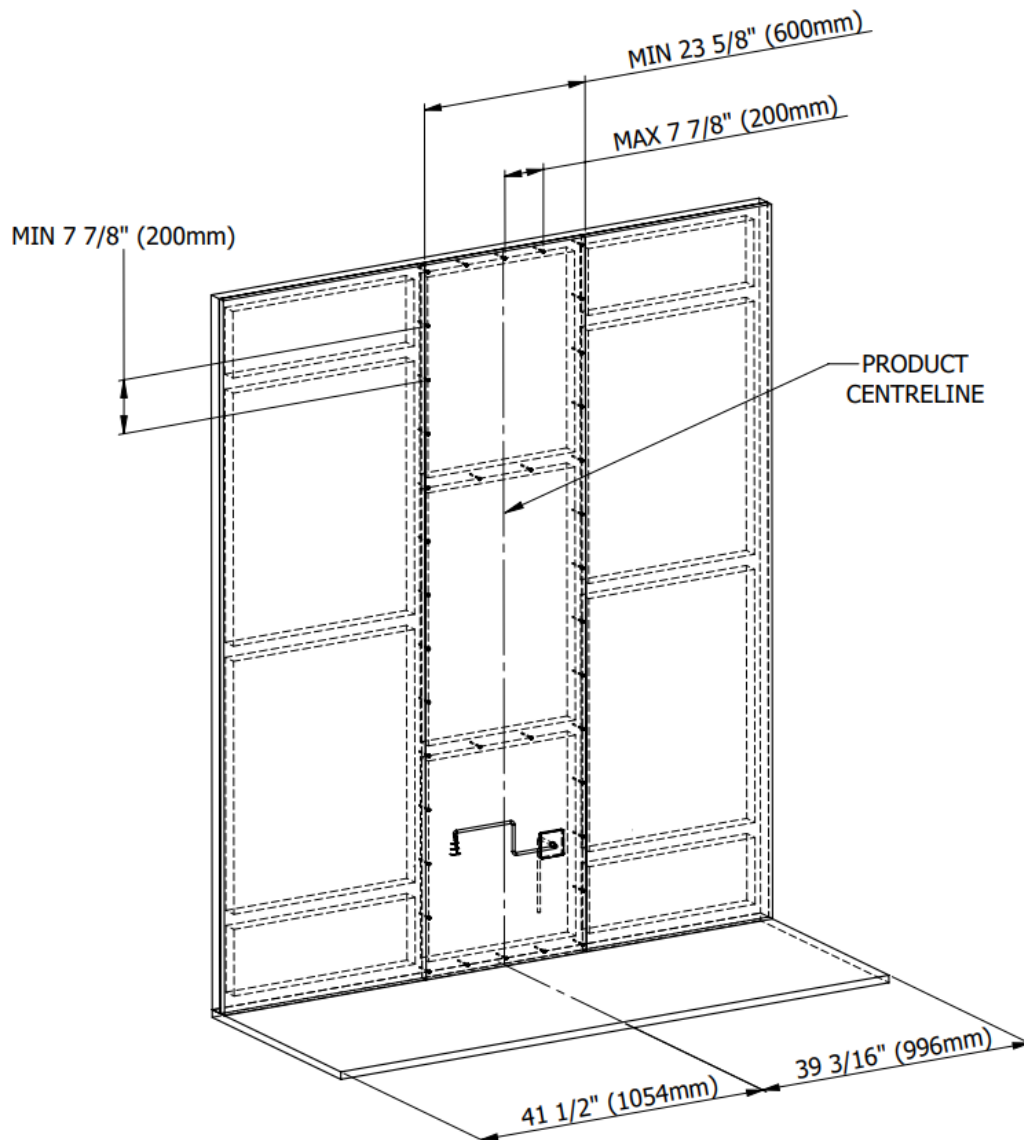

Fig 11.1
- The marine plywood must be from floor to ceiling and secured every 7 7/8" (200 mm) around the perimeter and to at least 2 supporting horizontal cross members as shown in Fig 11.1.
- For wooded stud walls additional framing will not be required as long as framing behind the installed unit matches that shown in Fig 11.1.